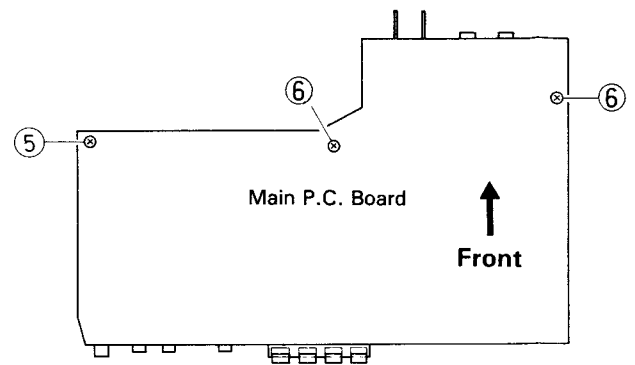

Fig. 16
2. Remove the three screws (2).
5. Remove the solder from the earth wires. (Fig. 16: screw (5).)